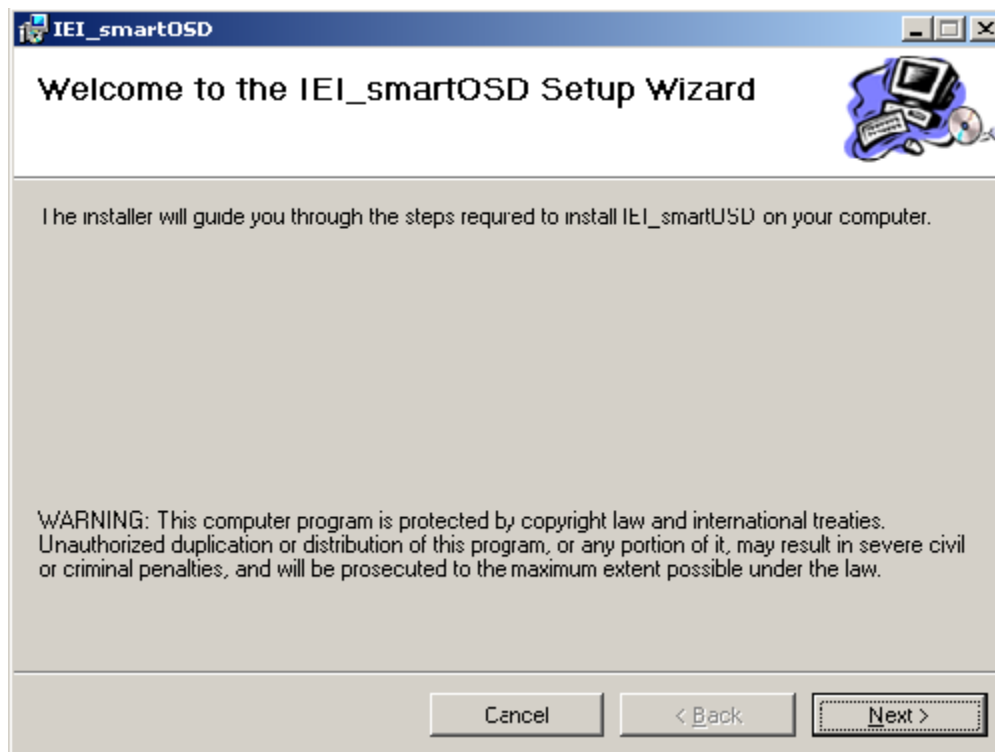

Figure 6-2: smartOSD Welcome Screen
Step 3: The welcome screen shown in Figure 6-2 appears.